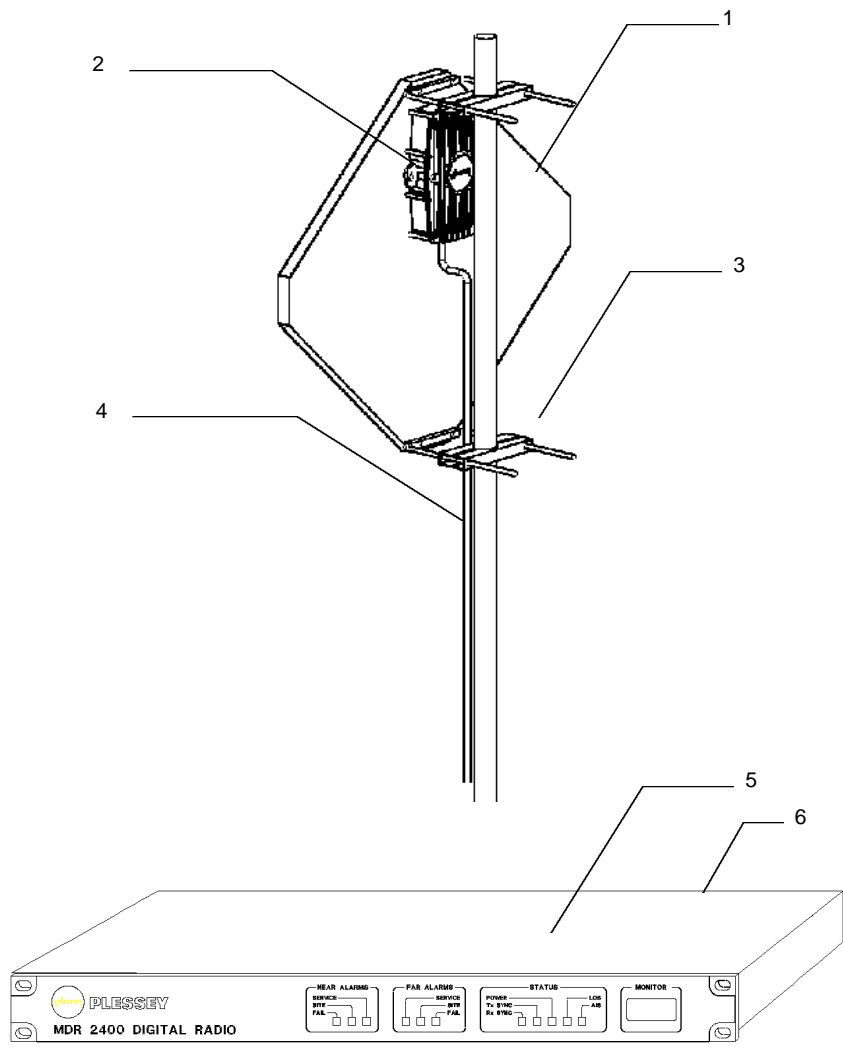

Figure 23. μLink System.
- **Item:** Indicates the annotation number referenced in the associated parts list illustration in Figure 23.
Figure 23 shows the user replaceable parts and components at the system level. Table 9 shows the actual parts list.